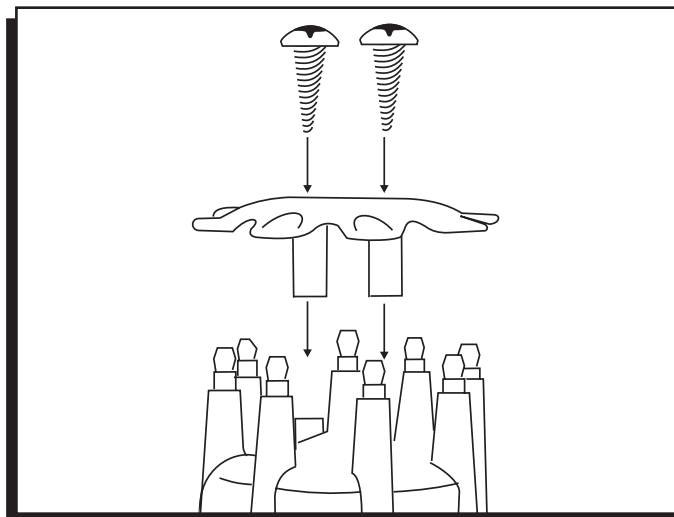

Figure 10 Installing the Wire Retainer
10. Install the distributor cap and spark plug wires one at a time to ensure correct location. A wire retainer is supplied to secure the wires in place. Align the mounting bosses and use the supplied 1.5" self-tapping Phillips screws to hold the retainer in place (Figure 10).